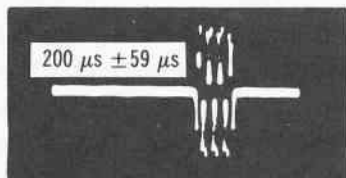

Fig. 4-11. The burst should occur 150 to 250 microseconds after the index pulse.
The index sensor is another adjustment that is rarely needed, but if you think this is out of alignment, check its adjustment by connecting the scope channel A to TP3, channel B to TP7, and the ground to TP6. Set the scope's time sweep to 50 microseconds per division and the amplitude to 20 millivolts per division. Set the trigger to channel B (noninverted) on the positive slope. Set the head to track 01 using your test disk and then insert the alignment diskette. Check that the leading edge of the burst occurs 150 to 250 microseconds (best case is 200 microseconds) after the leading edge of the index pulse (Fig. 4-11). If the sensor needs adjustment, take the following actions:
17. Using a flathead screwdriver in the slots on the drive chassis and the sensor (see COMPUTERFACTS page 43), adjust the index sensor until the scope presentation is within specifications (see Fig. 4-11).